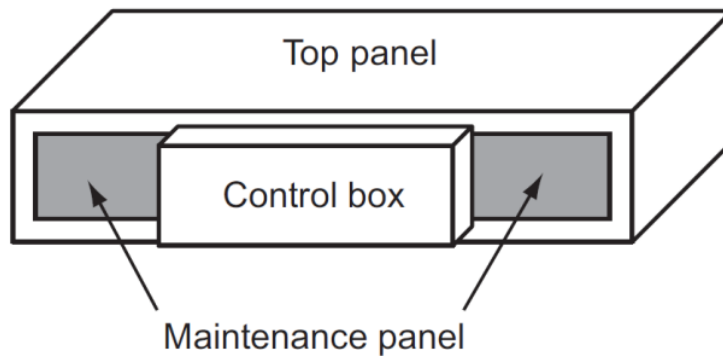

Fig. 4
5. As shown on figure 4; open the maintenance panel and open the 2 x air purge valves in the Main-HBC (and also sub-HBC if present). Make sure the Main-HBC's condensate/drain pipe has the correct gradient.